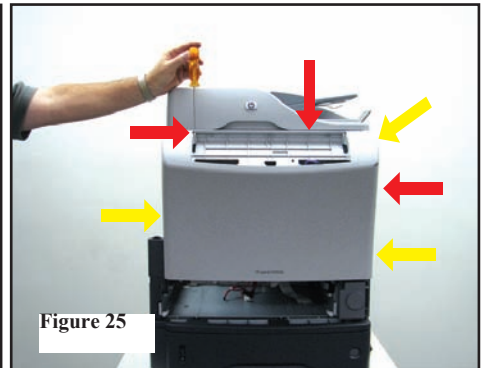

Figure 25
23. Remove front panel by removing 2 screws from top inside edge as shown and 1 screw from right side (red arrows), then prying tabs as marked, 2 front, 1 left (yellow arrows). (Figure 25)